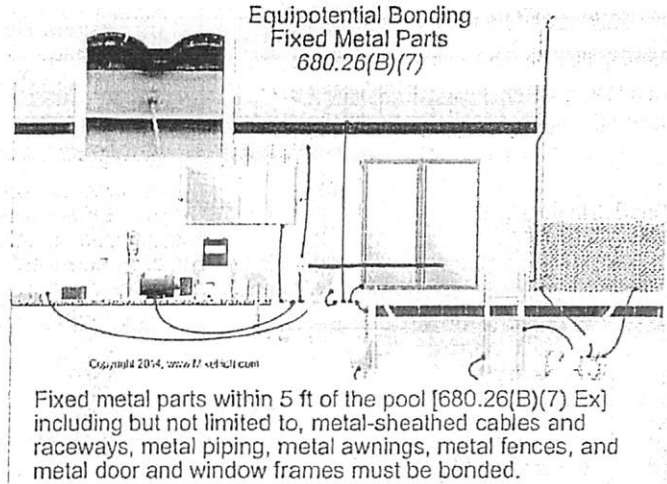

Figure 680-46
(7) **Fixed Metal Parts.** All fixed metal parts must be bonded to the equipotential grid, including but not limited to, metal-sheathed cables and raceways, metal piping, metal awnings, metal fences, and metal door and window frames. Figure 680-46